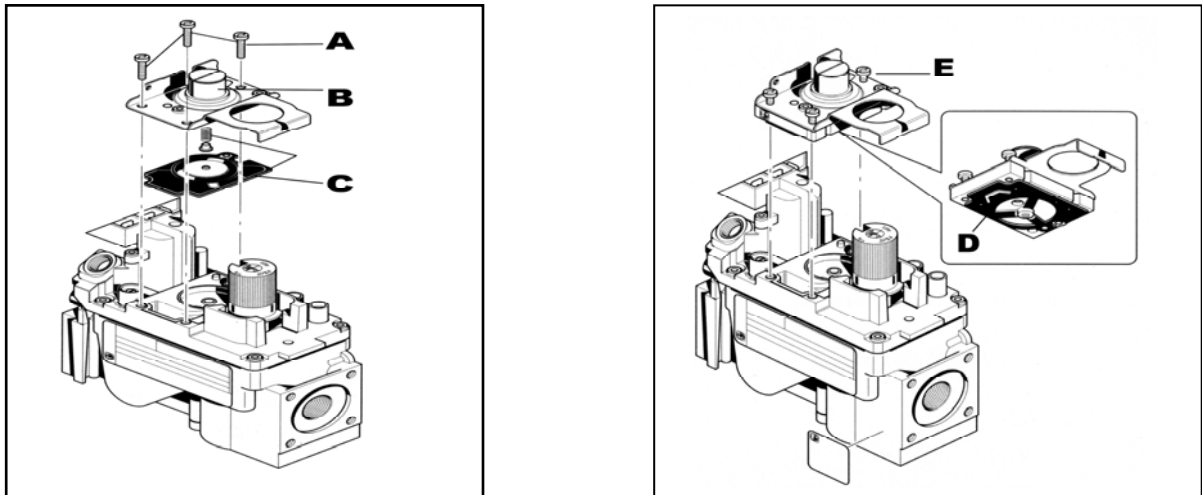

FIGURE 24: SIT 820 NOVA mV GAS CONTROL VALVE
- STEP 4** Refer to FIGURE 24 and using a Torx T20 screwdriver, remove and discard the three pressure regulator mounting screws (Item A), the pressure regulator tower (Item B), and the diaphragm assembly (Item C).
- STEP 5** Refer to FIGURE 24. Ensure that the rubber gasket (Item D) is properly positioned and install the new HI/LO pressure regulator assembly to the valve using the supplied screws (Item E). Tighten screws securely.